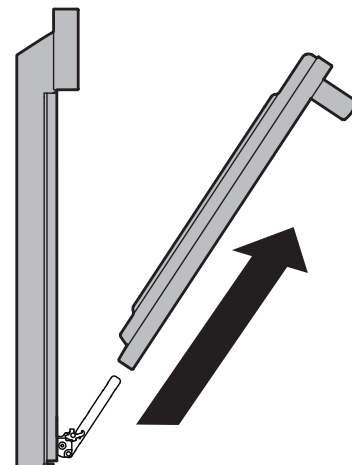

Figure 18: Remove door
4. Pull the bottom of the door toward you while rotating the top of the door toward the appliance to completely disengage the hinge levers (Figure 18).
1. Firmly grasp both sides of oven door along the door sides. Do not use the oven door handle (Figure 18).